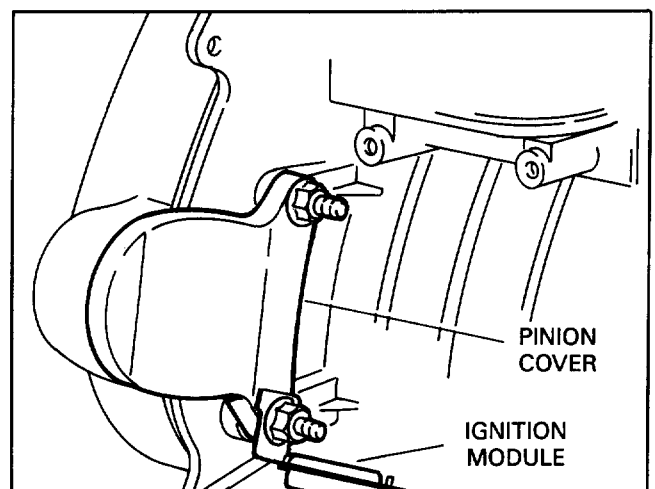

Figure 3
3. For models without the additional casting in the starter mount location, remove two M8 flange nuts securing pinion cover to engine and remove cover (Fig. 3).
4. Remove ignition module bracket from engine and discard fasteners. Disassemble module from bracket, set module aside and discard bracket (Fig. 3).